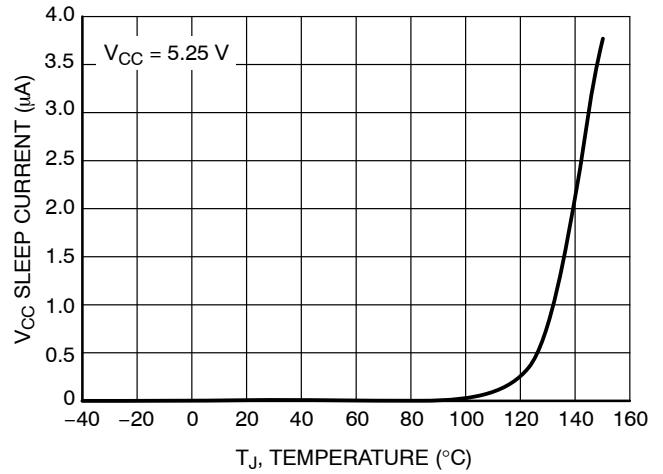

Figure 5.  $V_{CC}$  Sleep Supply Current vs. Temperature
6. For temperatures above  $85^{\circ}\text{C}$ , refer to Figure 5.